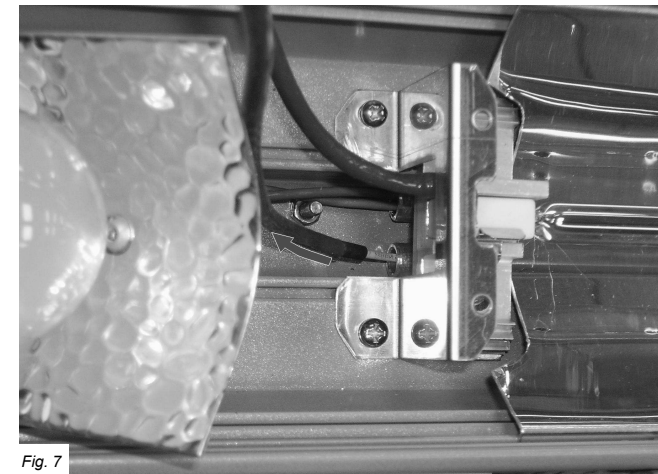

Fig. 7
9. At the opposite end of the heater, if the heater has lights hold the bulb plate out of the way (Fig. 7) or if it is a heater only the wire will be clearly visible in the feeder tube, gently pull the lamp wire out of the tube.